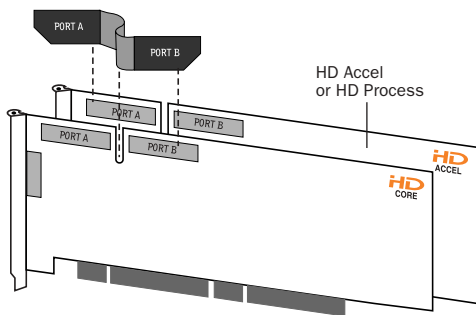

Figure 2. Inserting TDM FlexCable
**2** Slide the FlexCable into the notch of the first card, so that the Port B connector of the FlexCable can be aligned with Port B of the first card; and the Port A connector of the FlexCable can be aligned with Port A of the second card as shown in Figure 2.